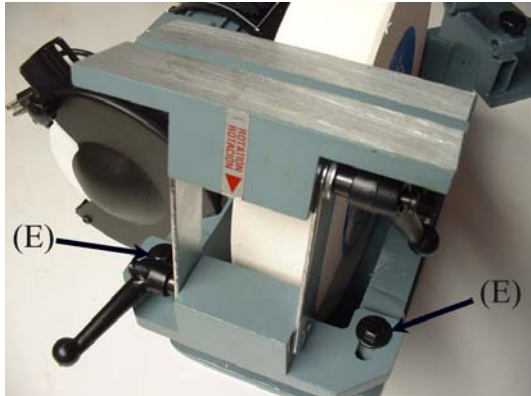

Fig. 6 Removal of Flat Toolrest
Remove the Delta 23-700 flat toolrest by loosening the two 1" hex head bolts (E) that secure it to the machine (Figure 6).